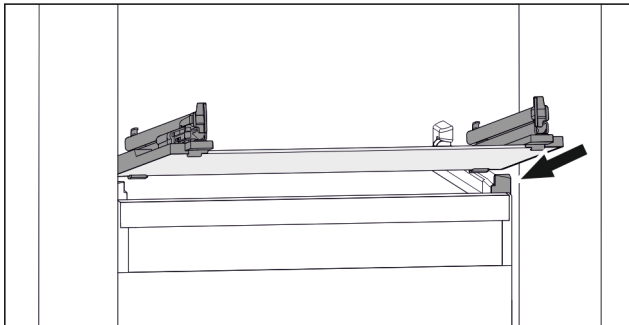

Fig. 79 Example illustration of glass shelf
- ▶ Position glass shelf at an angle behind the stoppers. (see Fig. 79)